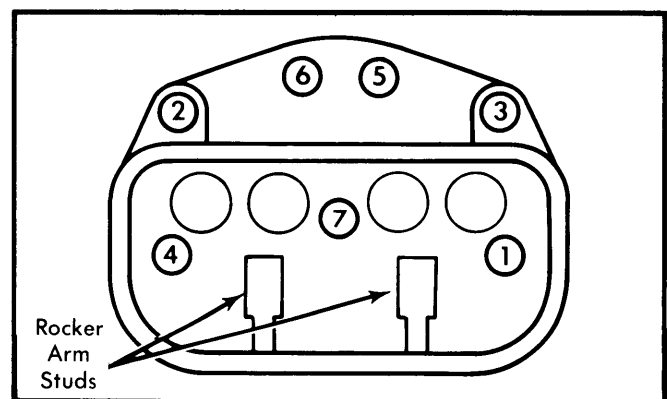

Fig. 1 Cylinder Head Nut Loosening Sequence (Rocker Arm Assembly Removed)
5) Remove spark plugs and valve cover. Remove rocker assembly and push rods. Remove cylinder head bolts in sequence. See Fig. 1. Remove cylinder head and gasket. Use Allen wrench and remove crankcase plug.